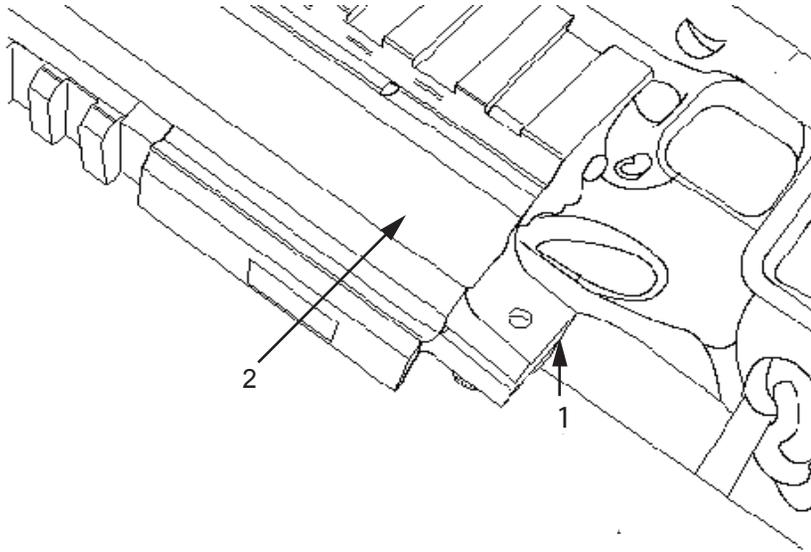

Figure 7. Left Side Rail Adapter, Receiver.
2. Install the left side rail adapter (Figure 7, Item 2) so the adapter (Figure 7, Item 2) fits on the bottom of the receiver and ends on the two rail adapters (Figure 7, Item 1) are aligning with each other. The two studs will also fit into the holes on the side of the receiver.